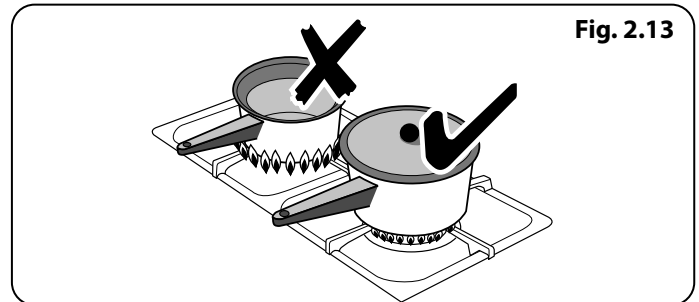

Fig. 2.13
3. Make sure that the flames are under the pans (**Fig. 2.13**). Using a lid will help the contents boil more quickly.